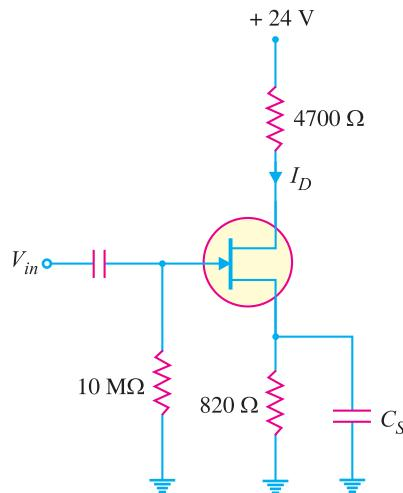

Fig. 19.64
3. In the *JFET* circuit shown in Fig. 19.64 if $I_D = 1.9 \text{ mA}$, find V_{GS} and V_{DS} . [-1.56V; 13.5V]